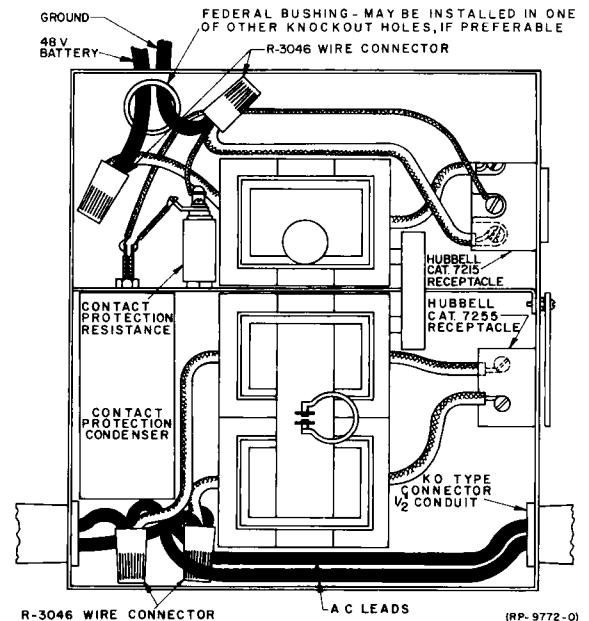

FIG. 1 WIRING OF DRIVE MOTOR SAF-TO-FUSE BOX (PAR. 4.125)
4.125 Mount the contact protection assembly and connect the condenser lead to the 3 pole receptacle, as shown in Figure 1.
[4.15 Splice leads in the boxes, as shown in Figure 1.
(1) To Change Figure 1.